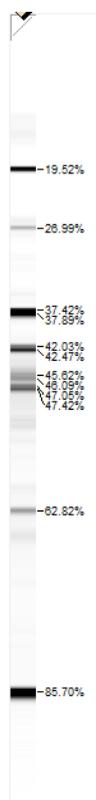

Figure 14: Gel card.
32. Open the lane for one of the entries in the database by clicking on a colored dot in the *Experiment presence* panel (see Figure 14).